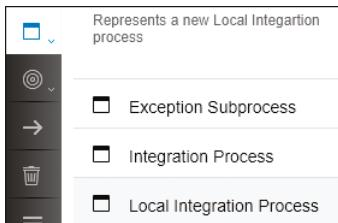

Figure 6.31 Modeling a Local Integration Process
1. Model the subprocess alongside the main process by picking the **Local Integration Process** entry from the palette, which can be found beneath the **Process** main menu entry (Figure 6.31).